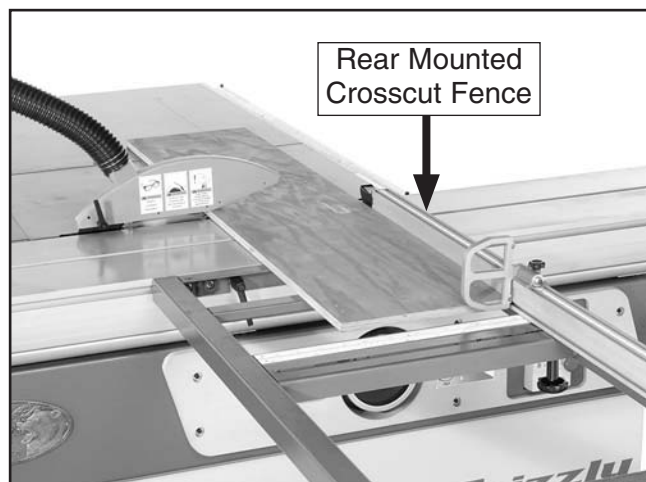

Figure 58. Crosscutting smaller panels.
Mounting the crosscut fence in the rear position (**Figure 58**) gives greater stability for crosscutting smaller panels.
4. Load the workpiece onto the table saw. The set up should look similar to **Figure 58**.